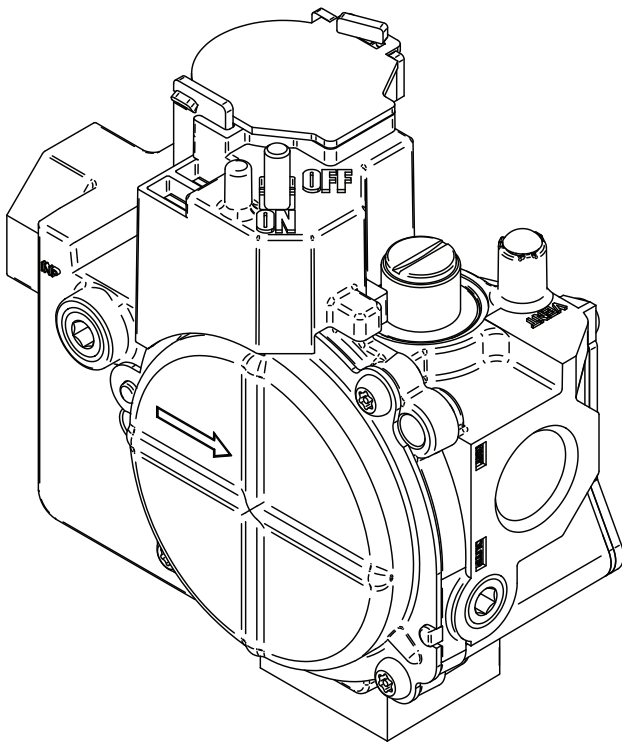

Fig. 42 – Gas Control Valve
- Remove manifold pressure tap plug from gas valve. (See Fig. 42.)